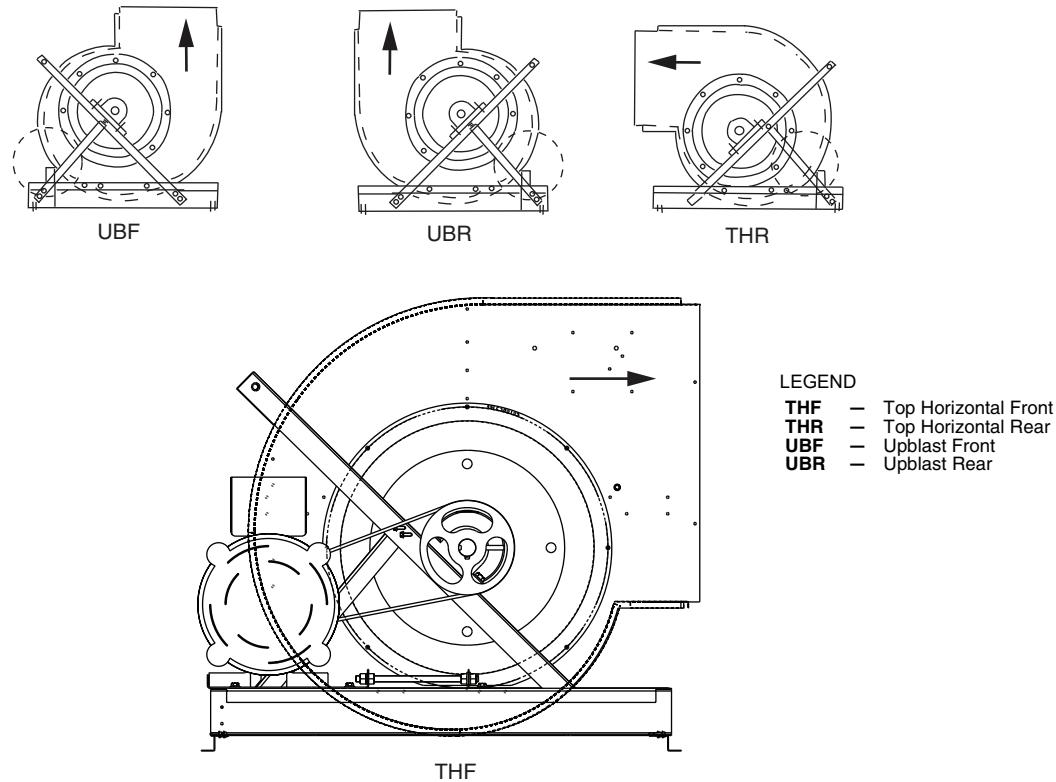

Fig. 62 — Fan Discharge Positions, Sizes 21 and 25
- Sizes 21 and 25 — See Fig. 62. The "A" frame support must be removed. To change from upblast to horizontal discharge or from horizontal to upblast discharge, the bearings must be relocated to keep the wheel centered in the housing. To change from upblast front (UBF) to upblast rear (UBR) or from top horizontal front (THF) to top horizontal rear (THR) or vice versa, turn the entire fan housing 180 degrees about its base.